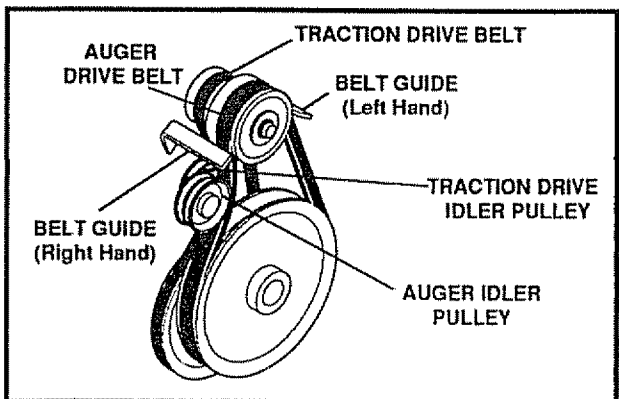

FIG. 26
AUGER DRIVE BELT (See Fig. 26)
- Loosen the nut on the auger idler pulley (See Fig. 26) and move the pulley toward the belt about 1/8".